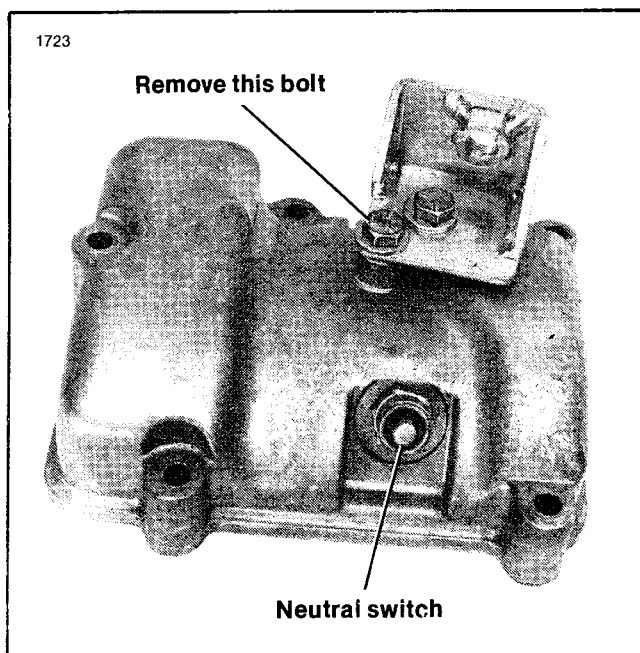
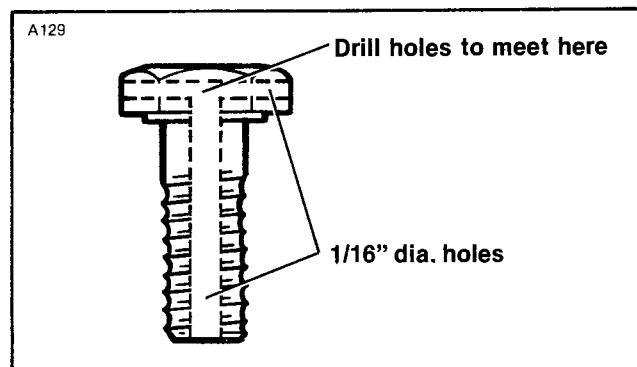

Figure 1. Rear Clutch Cable Bracket Bolt
Figure 2. Clutch Cable Bracket Bolt Part No. 3751
4. See Figure 1. Remove the rearmost clutch cable bracket bolt (1/4-20 x 5/8 in.). See Figure 2. Drill through the bolt head with a 1/16 in. dia. drill. Drill a second 1/16 in. dia. hole lengthwise from the bottom of the bolt to meet the cross hole in the head. Do not drill this hole completely through the head